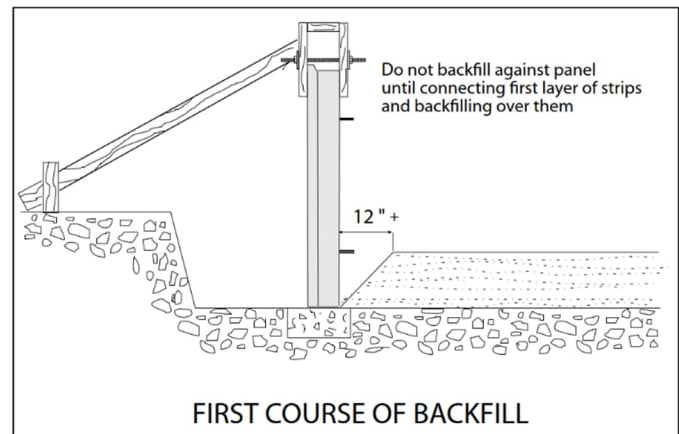
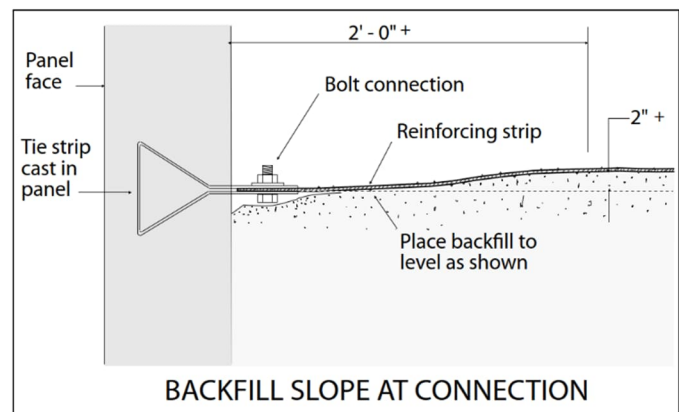

Figure 25: First course of backfill.
Figure 26: Backfill slope at connection.
**STEP D-1:** Place and compact initial lifts of Select Granular Backfill up to the bottom row of panel tie strips (Figure 25). Note that the uniform loose thickness placement of each lift of backfill material must not exceed 12 in. The level of the compacted backfill should be 2 in. above the tie strips as shown in Figure 26. In order to avoid pushing the braced panels out of alignment, initial lifts of backfill are neither placed nor compacted against the back of the panels.